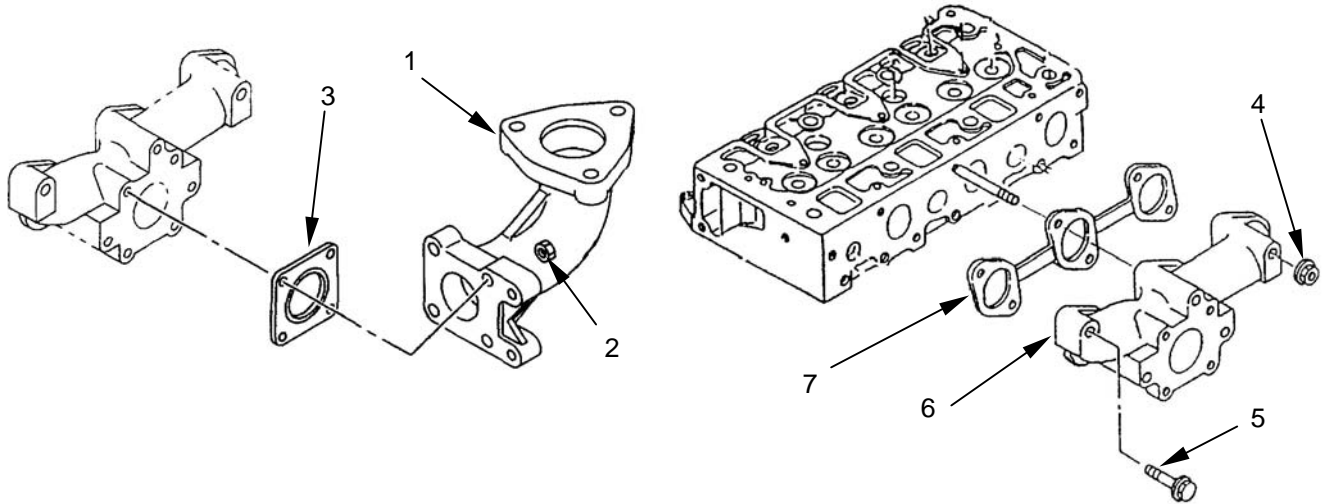

Figure 3. Exhaust Manifold and Elbow
- b. Loosen and remove exhaust manifold elbow (**figure 3, item 1**) mounting nuts (**figure 3, item 2**) (quantity 4).
- c. Remove exhaust manifold elbow (**figure 3, item 1**) and elbow gasket (**figure 3, item 3**).
- d. Loosen and remove exhaust manifold mounting nuts (**figure 3, item 4**) (quantity 2).
- e. Loosen and remove exhaust manifold mounting bolts (**figure 3, item 5**) (quantity 2).
- f. Remove exhaust manifold (**figure 3, item 6**) and gasket (**figure 3, item 7**).